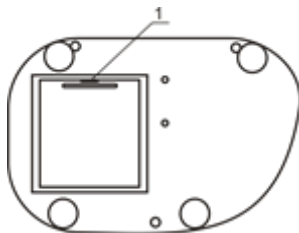

Figure 1.
- (for **DEN-1B**) Battery installation. Insert a flat sharp pin in the small socket (fig. 1/1) on the underside and open the battery compartment. Insert batteries as shown on the scheme inside and close the compartment.